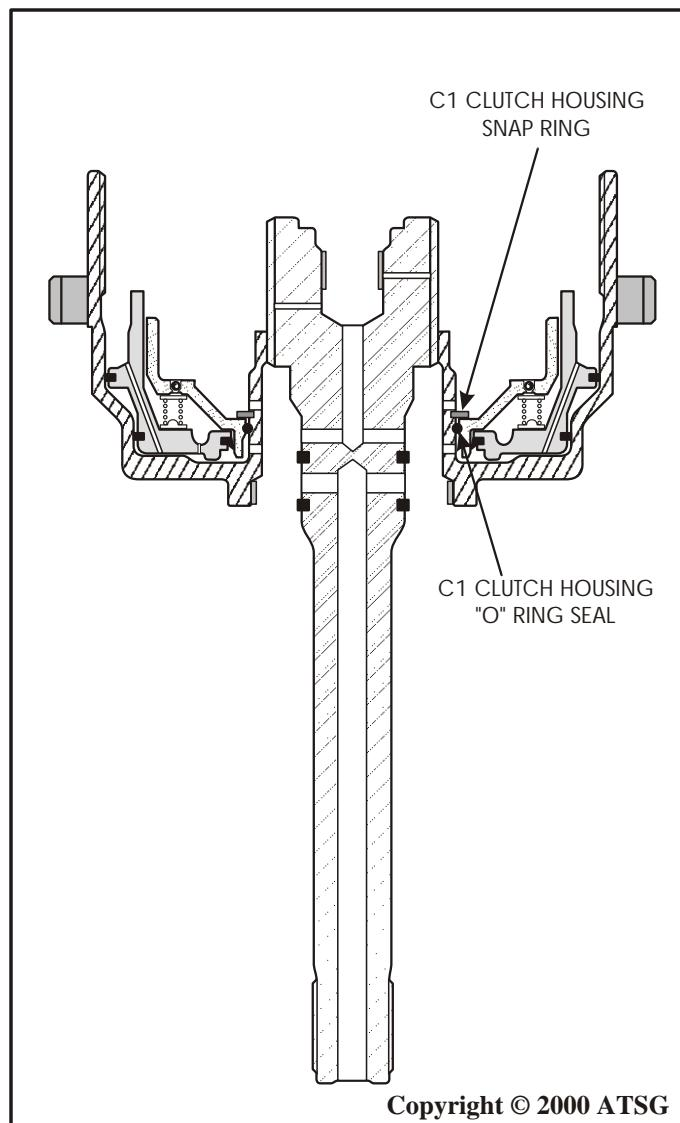

Figure 104
12. Install the C1 clutch housing "O" ring seal into the ***lower*** groove in the C1/C2 clutch housing, as shown in the cut-away in Figure 104.
14. Compress the C1 clutch housing against the return spring assembly and install the C1 clutch housing snap ring into the ***upper*** groove in the C1/C2 clutch housing, as shown in cut-away in Figure 104.